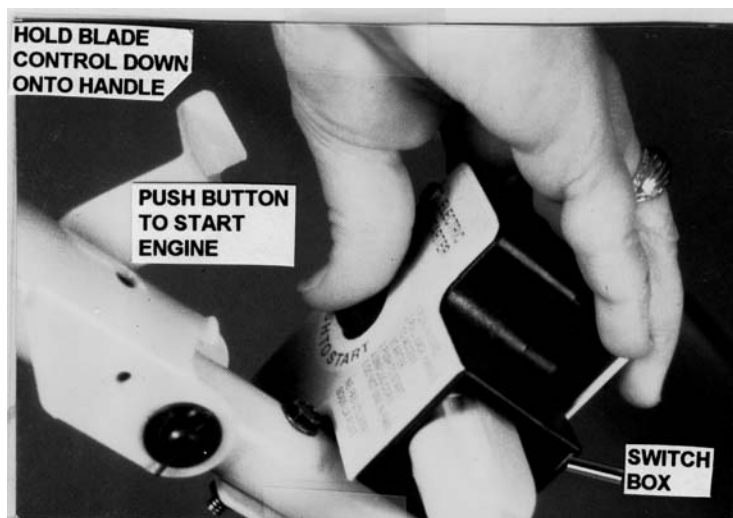

FIGURE 11
5. Use the thumb of your right hand to depress the switch box starter button. When the engine starts, release the button. See Figure 11.